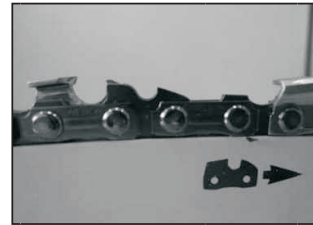
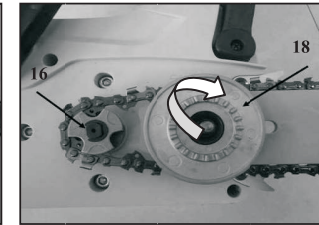

Fig. 3A
Fig .3B
- Place the chain in the slot of the guide bar, making sure the saw teeth are facing the correct direction by matching the arrow on the guide bar (Fig. 3A)
- Place the saw chain around the sprocket (16) with teeth cutting edges facing away from the
drive sprocket along top edge of the guide bar. Meanwhile the chain tension knob (18) should be rotated all the way clockwise until it stops in order to tension the saw chain. (Fig.3A/ Fig.3B)